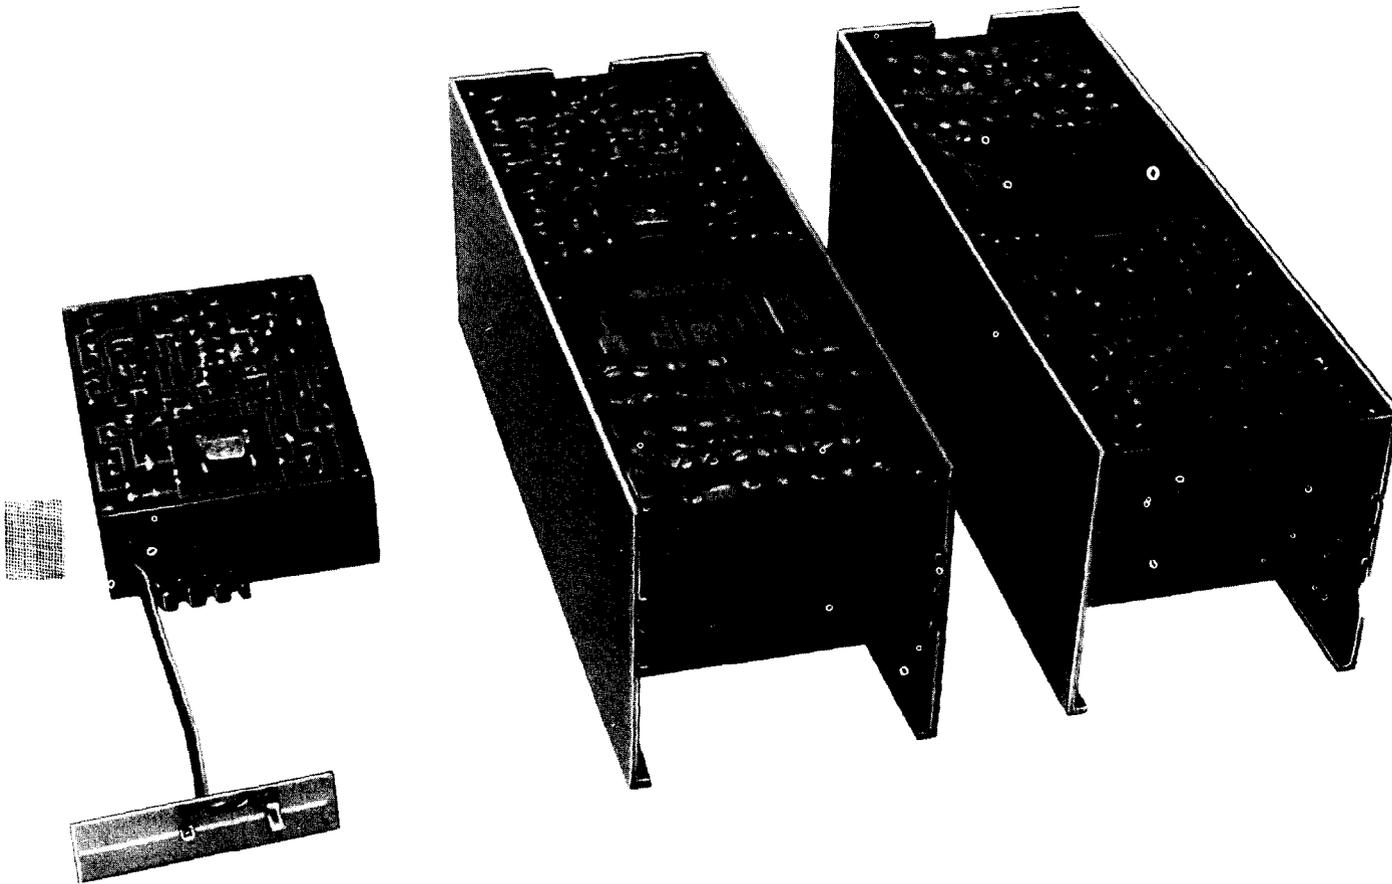

Fig. 1—E6RE Packaged in E6 Repeater
1.02 The E6RE is designed to replace one of the 830-type Line Buildout (LBO) networks in the E6 repeater housing. It may be mounted in either the A or B position (Fig. 1). Power is supplied to the E6RE from the 831A/B gain network via a connector assembly attached to pins 7 and 14 of the 501A connector.